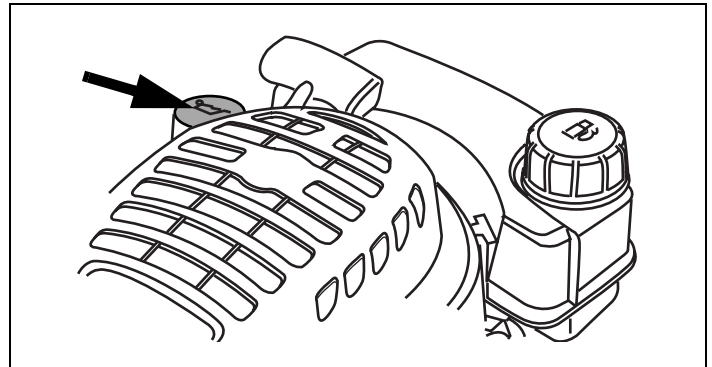

Figure 35. Oil Fill Cap Dipstick
10. Remove oil fill cap dipstick. See Figure 35.
13. Install oil fill cap dipstick. Tighten securely. See Figure 35.